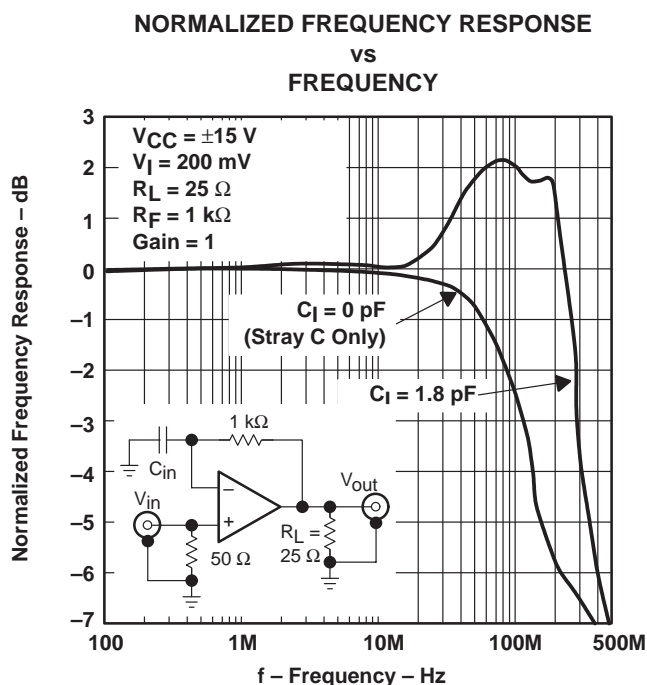

Figure 44. Driver Normalized Frequency Response vs Frequency
Driving capacitive loads with high performance amplifiers is not a problem as long as certain precautions are taken. The first is to realize that the THS6012 has been internally compensated to maximize its bandwidth and slew rate performance. When the amplifier is compensated in this manner, capacitive loading directly on the output will decrease the device's phase margin leading to high frequency ringing or oscillations. Therefore, for capacitive loads of greater than 10 pF, it is recommended that a resistor be placed in series with the output of the amplifier, as shown in Figure 44. A minimum value of 10 Ω should work well for most applications. For example, in 75- Ω transmission systems, setting the series resistor value to 75 Ω both isolates any capacitance loading and provides the proper line impedance matching at the source end.
- **Input stray capacitance** – To minimize potential problems with amplifier oscillation, the capacitance at the inverting input of the amplifiers must be kept to a minimum. To do this, PCB trace runs to the inverting input must be as short as possible, the ground plane must be removed under any etch runs connected to the inverting input, and external components should be placed as close as possible to the inverting input. This is especially true in the noninverting configuration. An example of this can be seen in Figure 44, which shows what happens when 1.8 pF is added to the inverting input terminal in the noninverting configuration. The bandwidth increases dramatically at the expense of peaking. This is because some of the error current is flowing through the stray capacitor instead of the inverting node of the amplifier. Although, in the inverting mode, stray capacitance at the inverting input has little effect. This is because the inverting node is at a *virtual ground* and the voltage does not fluctuate nearly as much as in the noninverting configuration.